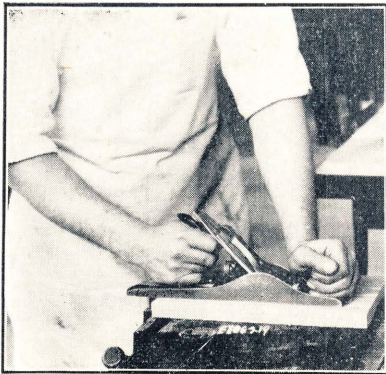

Fig. 14. Planing working face.*
- e. Mark "number one" (Fig. 14)